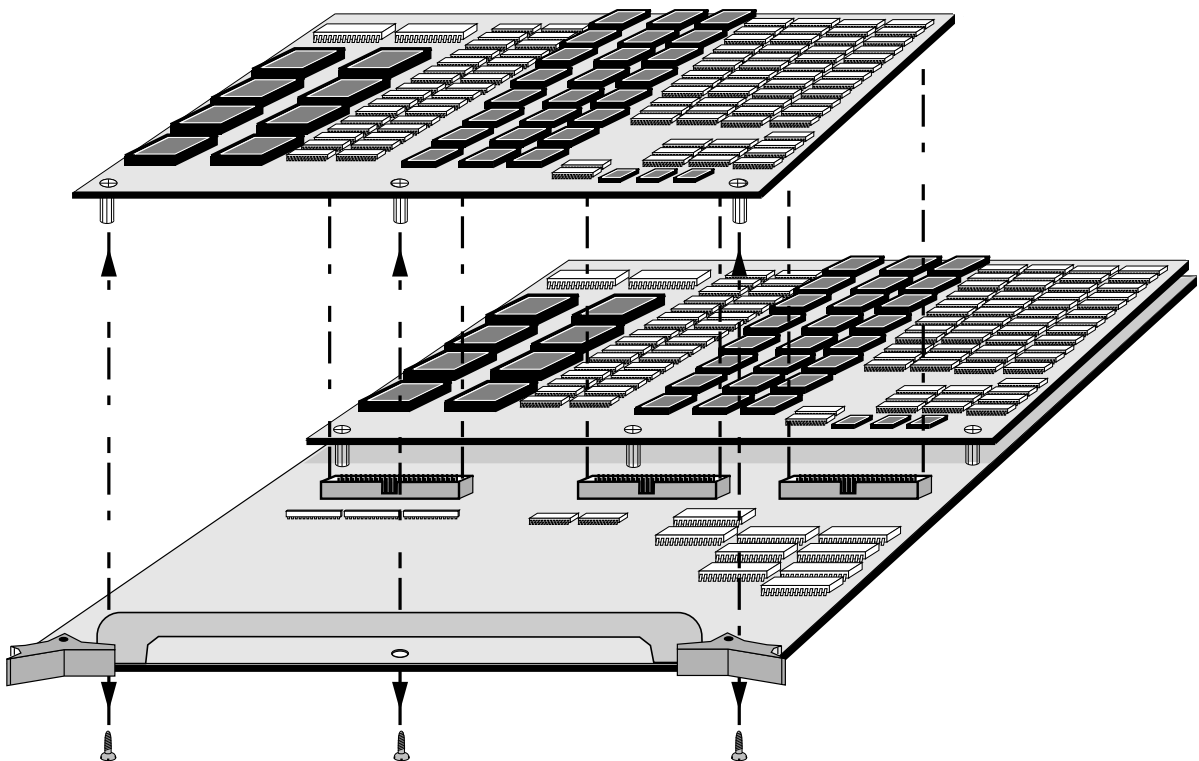

Figure 5-10. Removing Mezzanines
- Remove the screws holding the mezzanine to the module. On most mezzanines these screws are located at the bottom of the module (Figure 5-10), but exceptions exist.